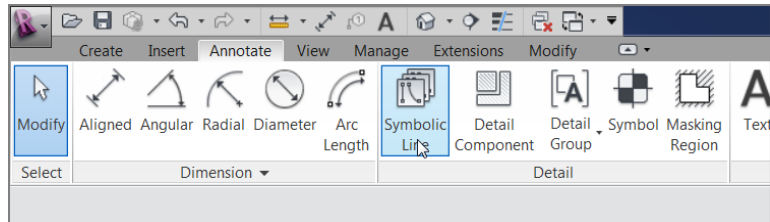

FIGURE 17.25: The Symbolic Line button
1. Go back to the door family in the Ref Plan view. On the Annotate tab, click the Symbolic Line button, as shown in Figure 17.25.